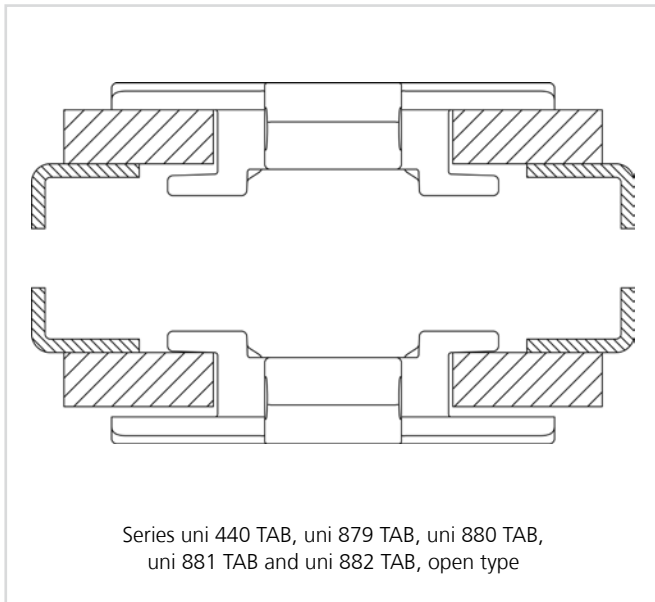
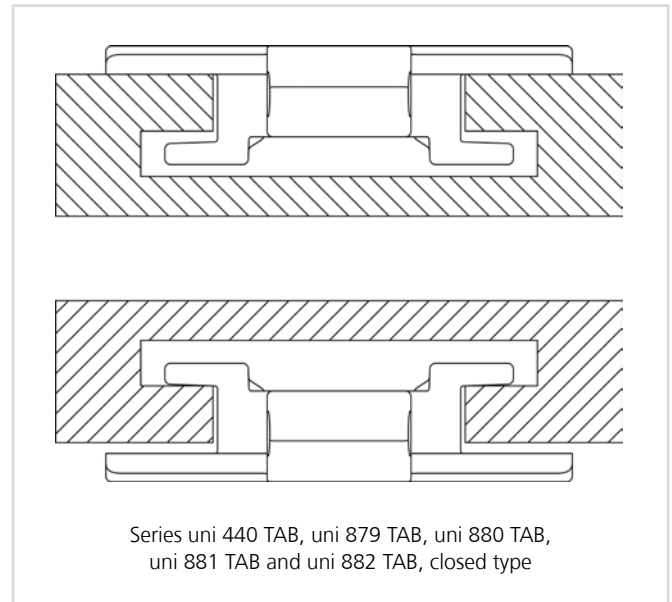

Figure 3-52
Figure 3-53
- The carry and return profiles for Tab-chains have similar shaped tracks. Figure 3-52 and figure 3-53.